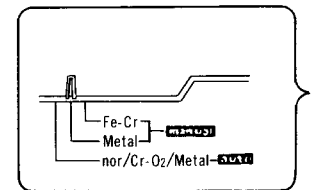

Fig. 28
- When the tape used is not provided with the metal tape detection hole, set the tape selector to metal position (fig. 28).